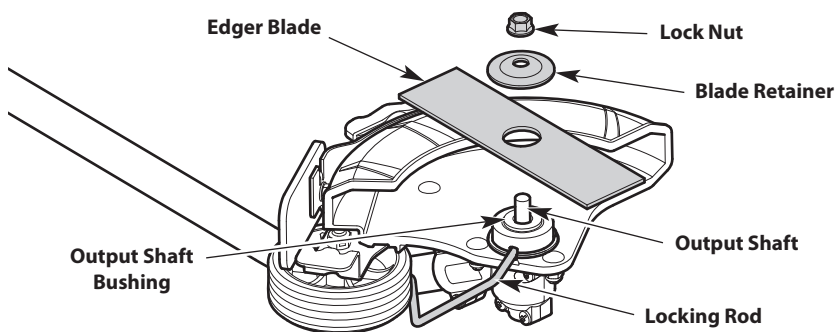

Fig. 19
4. Remove the locking rod. Remove the lock nut, blade retainer and edger blade (Fig. 19). Keep the lock nut and blade retainer for installing the new edger blade.
1. Lower the new edger blade onto the output shaft bushing (Fig. 19). Make sure the blade is flat against the output shaft bushing.
2. Place the blade retainer onto the output shaft with the flat surface against the blade (Fig. 19).
3. Screw the nut onto the output shaft (Fig. 19).